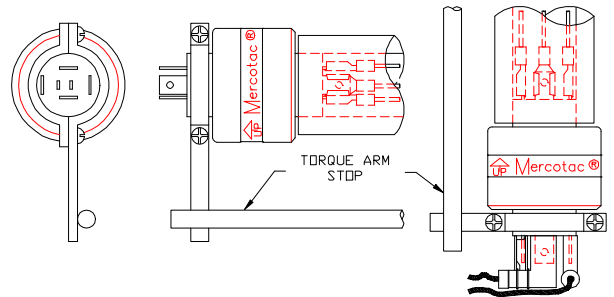

Fig 3 Floating Torque Arm Examples
4. Use stranded wires of ample length and flexibility to avoid mechanical loads. Avoid taut wires that pull on the connector. The wires should have enough free play to allow the connector end to rotate approximately ¼ turn. Wires, which allow too much free play, could wrap around the connector. Generally wires are strong enough to restrain the stationary end of the connector. A floating torque arm attached to the stationary bushing may be used if the wires are not adequate. <Fig 3>